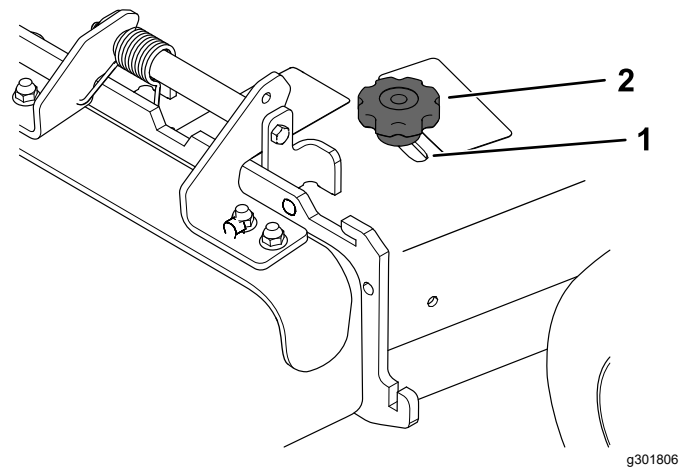

Figure 29
3. To adjust the baffle, loosen the knob (Figure 29).